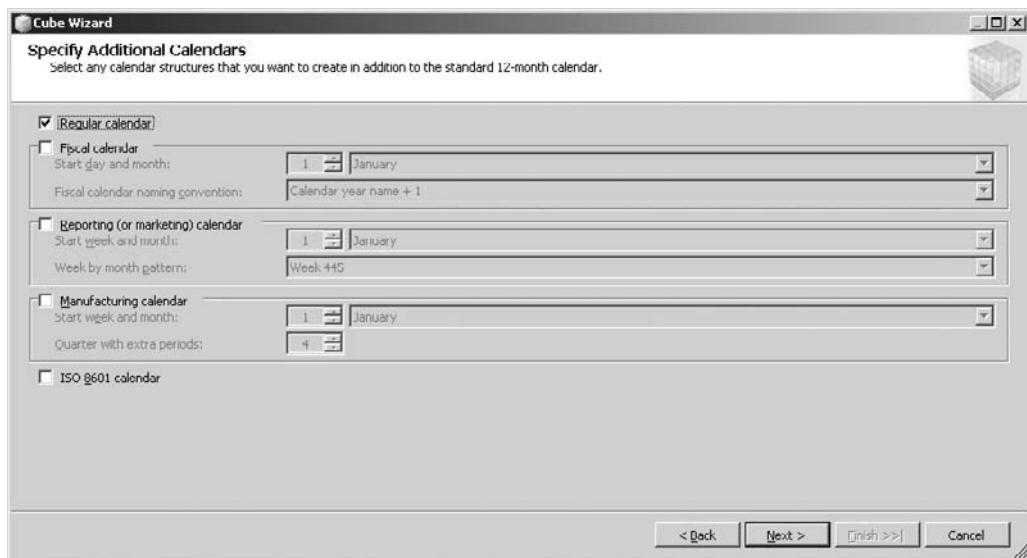

Figure 6-29 Specifying additional calendars in the Cube Wizard
38. The Specify Additional Calendars page lets us add additional calendars other than the standard 12-month calendar to the time dimension. The Specify Additional Calendars page is shown in Figure 6-29. This might include a calendar for a fiscal year that starts on a day other than January 1 or the ISO 8601 standard calendar. Max Min tracks sales based on the standard 12-month calendar, so simply click Next.